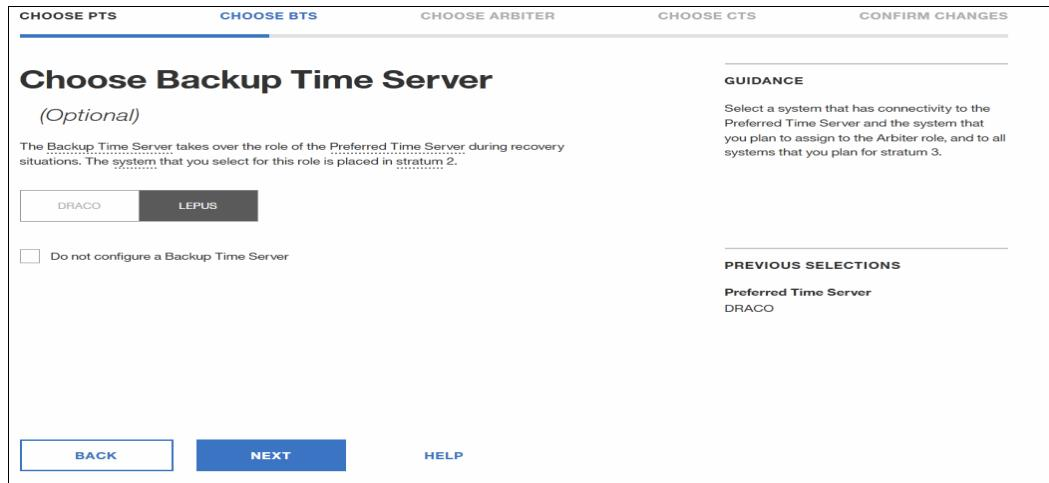

Figure 8-62 Choose Backup Time Server
3. The **Choose Backup Time Server** window opens. In the window, select the CPC name to use for BTS. In this example, we choose LEPUS for BTS. Click **NEXT** to continue (Figure 8-62).